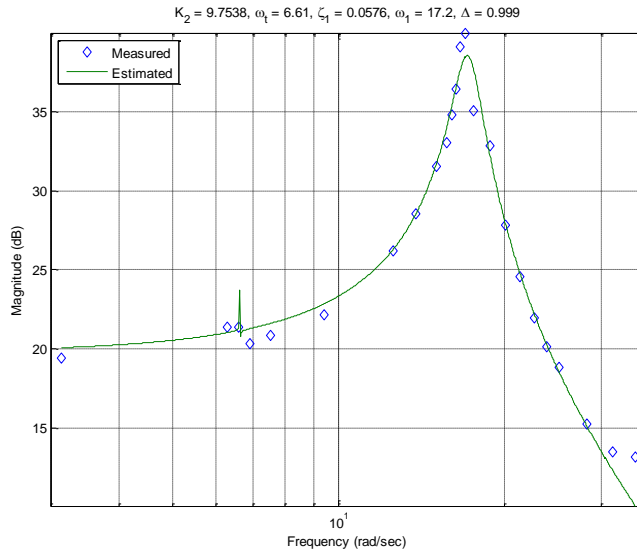

Figure 4: Regular Pendulum Model with pole/zero cancelation at $\omega_0 = 6.6133$ rad/s
- A graph of the fitted transfer function of the position of the cart to the input to the measured frequency response data. The optimal estimates of all parameters is (written at the top of the graph (see Figure 4)).
- A list of the poles and zeros of the estimated transfer function are printed to the MATLAB command window. This allows you to see how close to a pole/zero cancellation you have (this is 6.6133 rad/s for Figure 4).